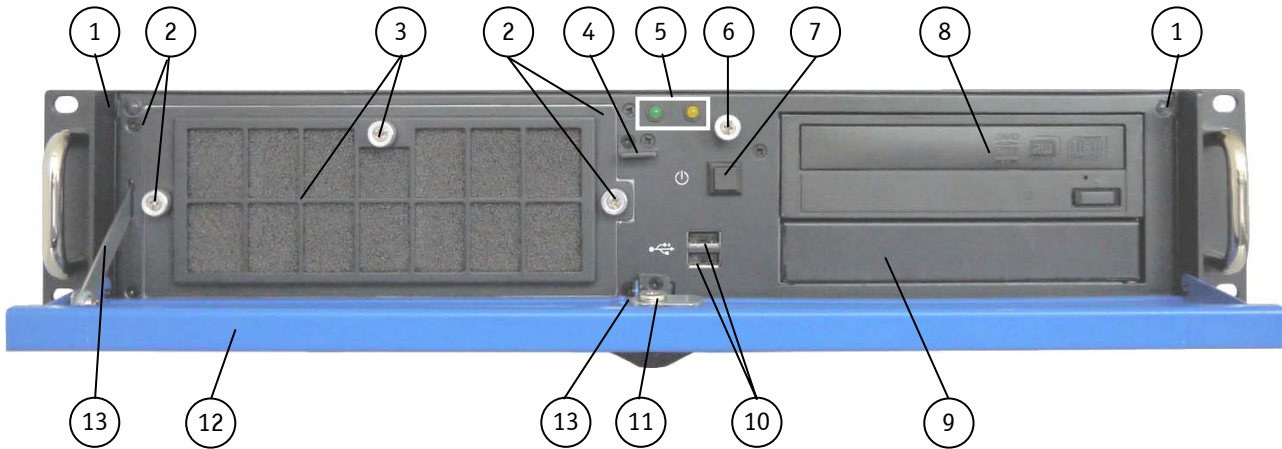
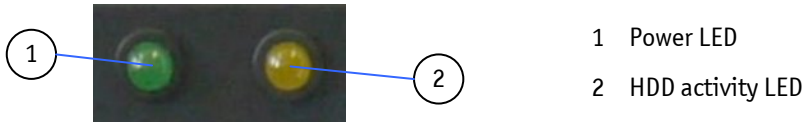

Fig. 11: Front side (rackmount version) with opened front access panel
Fig. 13: Indicators on the front side
The power button (see Fig. 12 and Fig. 11, pos. 7) is located on the front side of the system, behind the front access panel. Press this button to turn the system on or off.
Please observe that turning OFF the system via the power button (see Fig. 11, pos. 7) does not disconnect the platform from the AC mains power source.
Even when the system is turned off via the power button (see Fig. 11, pos. 7 and Fig. 12) there is still a standby-voltage of 5 VSb on the motherboard.
The LED indicators (see Fig. 11, pos. 5 and Fig. 13) of the KISS 2U Short V2 platform are located on the front side, behind the front access panel.
Power LED (green)	This LED (Fig. 13, pos. 1) lights up green when the system is turned on by the power button. Prerequisite: The system must be connected to the AC power source, using the power cable. The power supply ON/OFF switch on the rear of the system must be set to “ON” .
HDD LED (orange)	This LED (Fig. 13, pos. 2) lights up during hard disk activity.
KISS 2U Short V2 is equipped with two USB (2.0) interfaces (see Fig. 11, pos. 10 and Fig. 14) at the front side. These connectors allow you to connect different USB devices to the KISS 2U Short V2 platform.
If USB devices are connected to the USB ports (Fig. 11, pos. 10 and Fig. 14) on the front of the device, the front access panel cannot be closed and locked.
The cover fastening screw (Fig. 11, pos. 6) secures the cover to the chassis on the front side.
- the cover fastening screw (Fig. 11, pos. 6) and Fig. 25) on the front side
The filter mat and the filter mat holder (Fig. 11, pos. 3) are located behind the air grilles (Fig. 9, pos. 3) of the front access panel. The filter mat holder (Fig. 42, pos. 4) is mounted to the fan slide-in module (Fig. 41, Fig. 11, pos. 2) via a knurled screw (Fig. 42, pos. 5) and two centring latches (Fig. 42, pos. 6). A filter mat (Fig. 44) is inserted in the filter mat holder (Fig. 43). This filter mat protects your system against dust and dirt (see section 10.2 “Cleaning the Filter Mat”).
The two system fans are integrated in a user-friendly, replaceable fan slide-in module (hot-swap) (see subsection 7.2.5 “Fan Slide-In Module and Temperature Sensor”). The fan slide-in module (Fig. 11, pos. 2 and Fig. 36) can be replaced during operation (see section 10.1 “Replacing System Fans”).
Depending on the ordered system configuration, your KISS 2U Short V2 can be equipped with up to two drive bays (see Fig. 11, pos. 8 and 9; configuration with an internal HDD):
Drive Bay	Description (refer to Fig. 11)